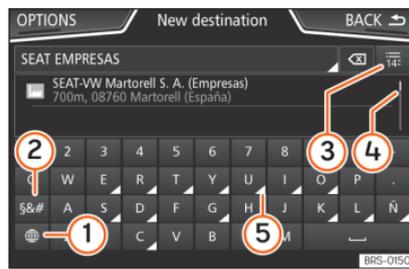

Fig. 147 Input window with on-screen keypad.
Matches are suggested on the input line » Fig. 147 ④. In the case of compound names, it is necessary to enter a space.